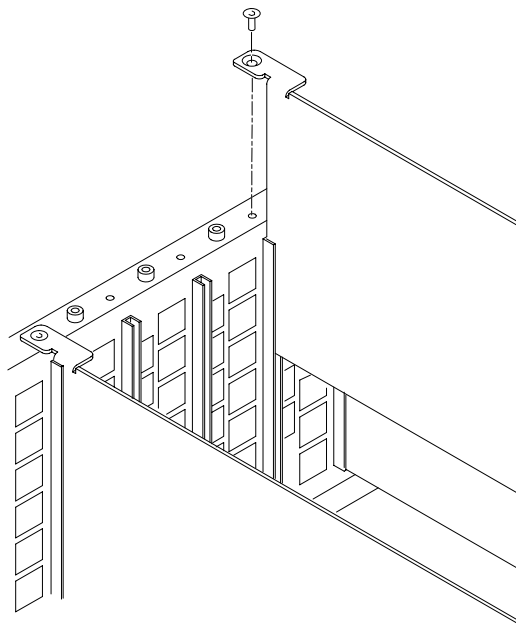

Figure C-8: Module top screw
10. Refer to Figure C-8 and insert and tighten the top screw, which comes with your module.